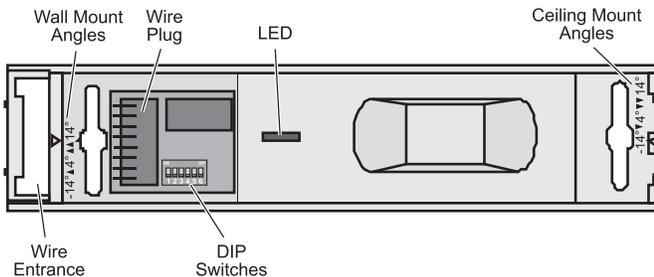

Fig. 1 Passive Infrared Egress Switch (front view)
5. Route the wiring as necessary through the wiring entrance (see Fig. 1). For surface wiring, use the breakout wiring entrance on the front cover (at the same end as the wire entrance).